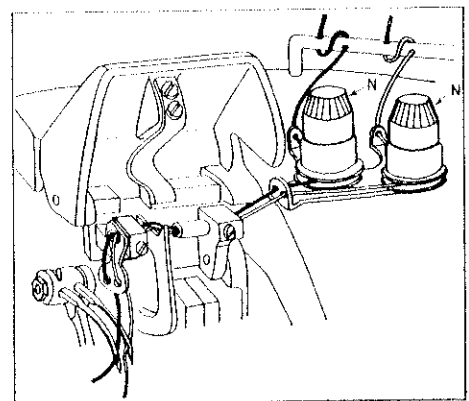
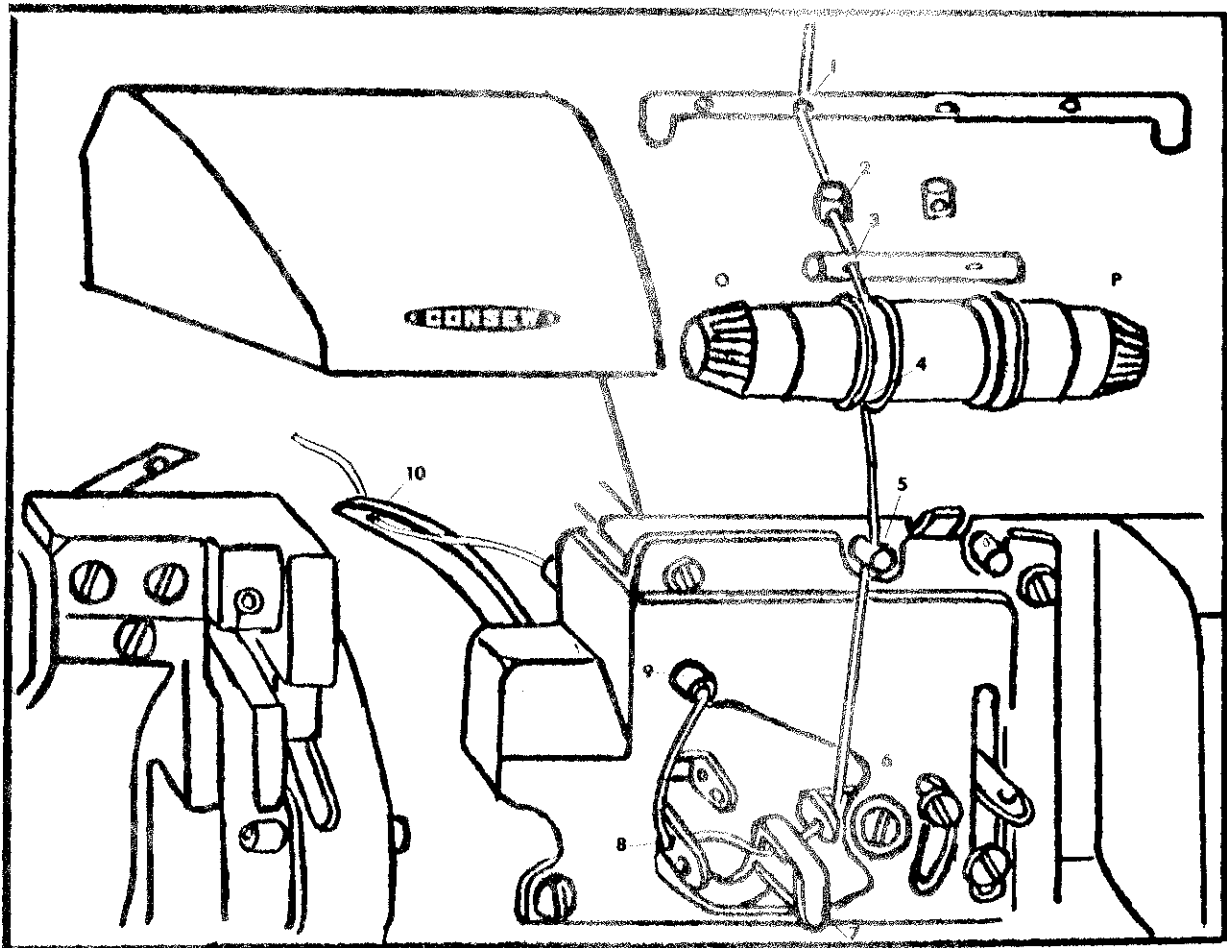
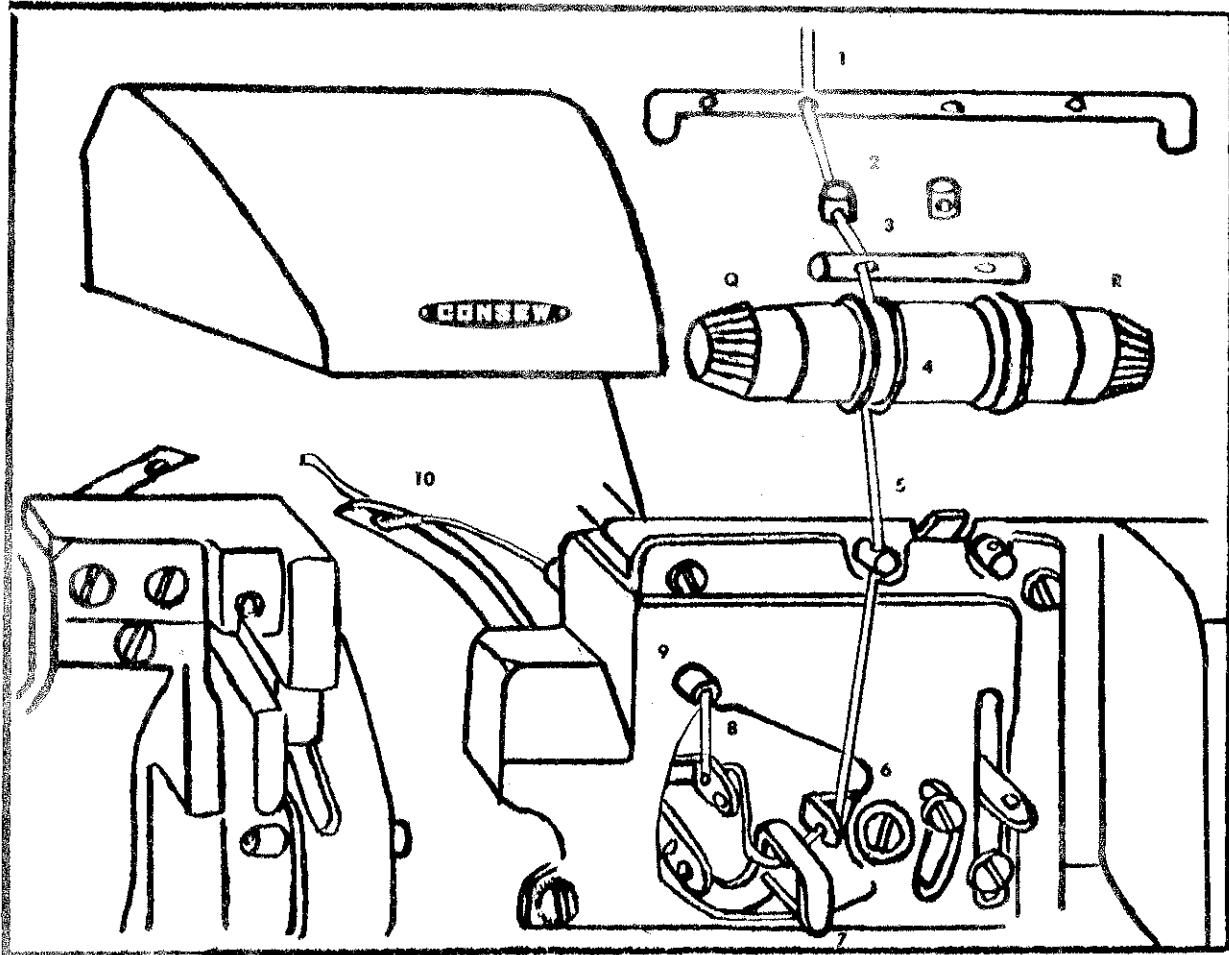
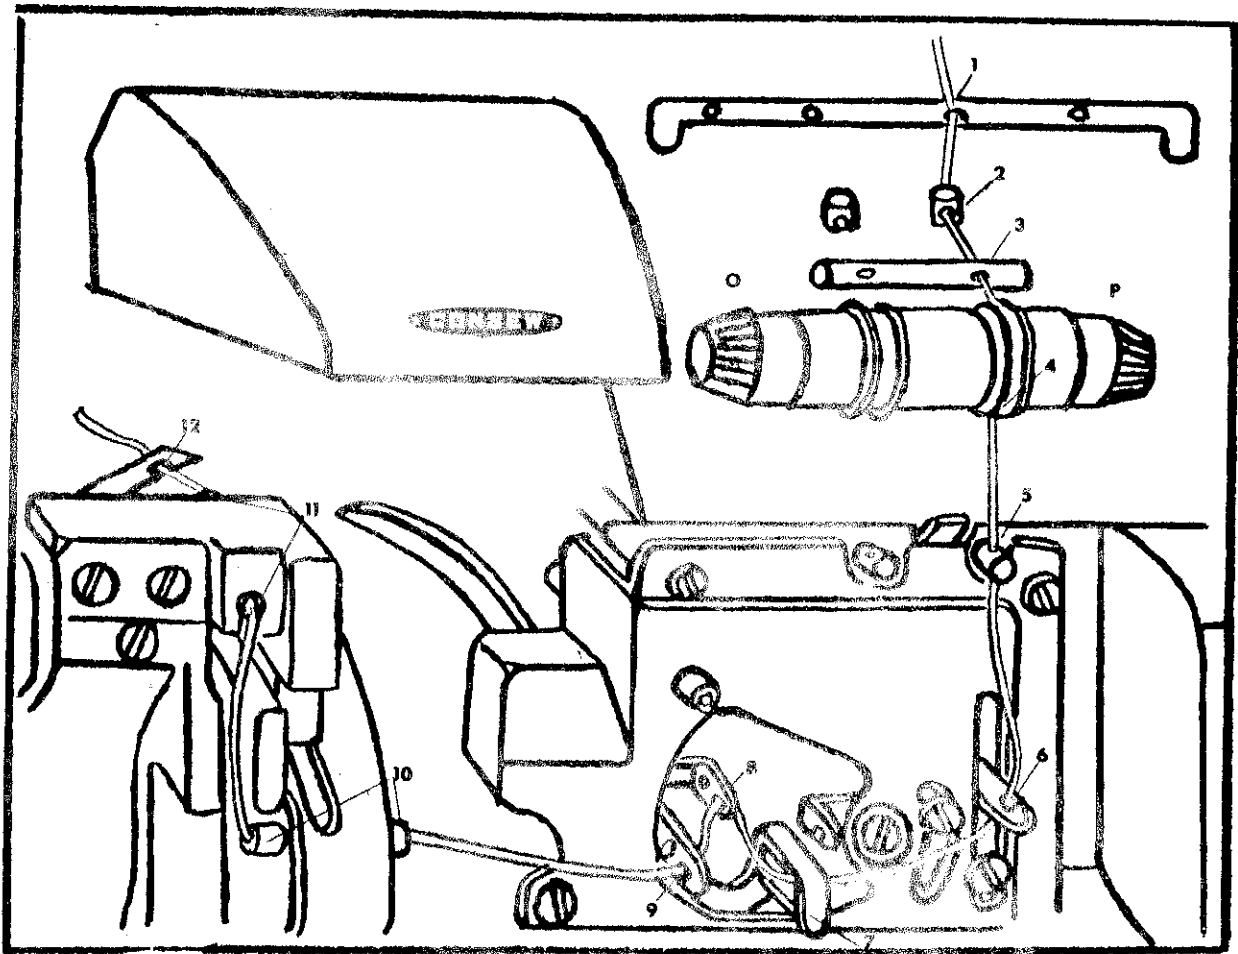

fig 8
fig 9
fig 10
fig 11
DRAW APPROXIMATELY THREE INCHES OF THREAD TO BACK OF NEEDLE PLATE BEFORE STARTING TO SEW. WHEN THREADING A TWO NEEDLE MACHINE MODEL 296, FOLLOW THE ABOVE PROCEDURE FOR THE OTHER NEEDLE (SEE FIGURE 8).
THREADING RIGHT LOOPER (FIGURE 9)
THREADING RIGHT LOOPER FOR 296 OR 286 WHEN USING A VERY SMALL BITE OR VERY PLIABLE THREAD. (FIGURE 10)
FOLLOW INSTRUCTIONS SAME AS RIGHT LOOPER THREADING PAGE 5, FIGURE 9, AND FOLLOW STEPS 1 TO 7 INCLUSIVE. AFTER THREAD IS PASSED THROUGH LEFT OF TAKE UP 7, IT IS NOW FED INTO UPPER TAKE UP 8, AND THROUGH TUBE 9 DIRECTLY INTO LOOPER 10.
THREADING LEFT LOOPER (SEE FIGURE 11)
CHECK THREADING TO BE SURE MACHINE IS THREADED AS IN FIGURE 7, 8, 9, 10, WITH TENSION LOOSE (SEE N FIGURE 8 AND O & P FIGURE 9, OR IN CASE OF 296 MACHINE Q & R FIGURE 10) OPERATE MACHINE SLOWLY WITH PRESSER FOOT (FIGURE 6-J) SWUNG OUT OF PLACE TO MAKE CERTAIN THAT A CHAIN FORMS AND SLIPS OFF NEEDLE PLATE FREELY, THEN SWING FOOT BACK INTO PROPER PLACE. INSERT MATERIAL AND START SEWING SLOWLY.
THE AMOUNT OF NEEDLE THREAD TENSION FIGURE 7,8, IS DETERMINED BY THE MATERIAL BEING SEWN, AND THE TYPE OF THREAD USED. BASICALLY THE LEFT LOOPER THREAD TENSION (O) FIGURE 11, SHOULD BE SET AS HIGH AS POSSIBLE WITHOUT CAUSING NEEDLE THREAD TO BE PULLED TOO FAR DOWN. RIGHT LOOPER TENSION (P) FIGURE 9, SHOULD BE INCREASED UNTIL CHAIN REACHES MAXIMUM ELASTICITY WITHOUT PULLING THE PURL OUT OF PLACE.